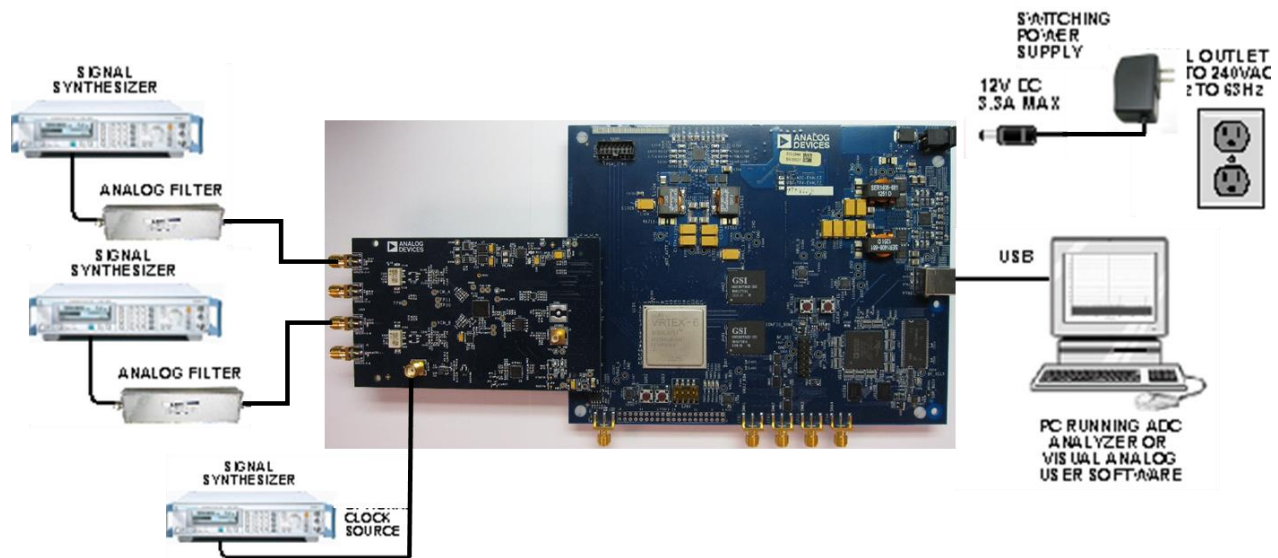

Figure 1: AD6673 Evaluation Board with HSC-ADC-EVALEZ Data Capture Board
1. Connect the AD6673 EVB and the HSC-ADC-EVALEZ board together as shown in Figure 1.